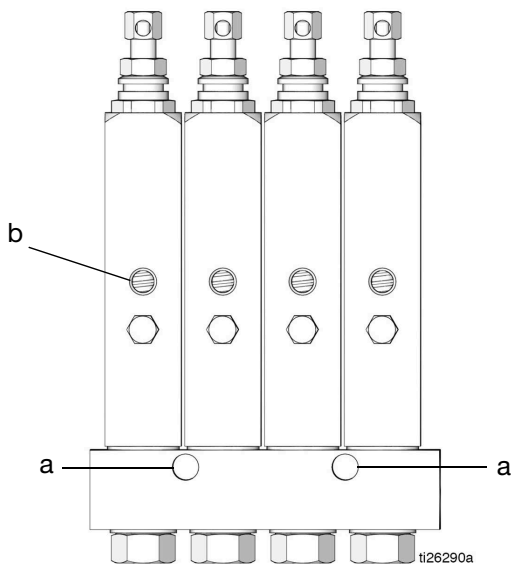

FIG. 1: GL-1 X model injector shown
Reference letters used in the following instructions, refer to FIG. 1.
3. Install injectors on a flat, hard surface using holes (a) (FIG. 1) in manifold.